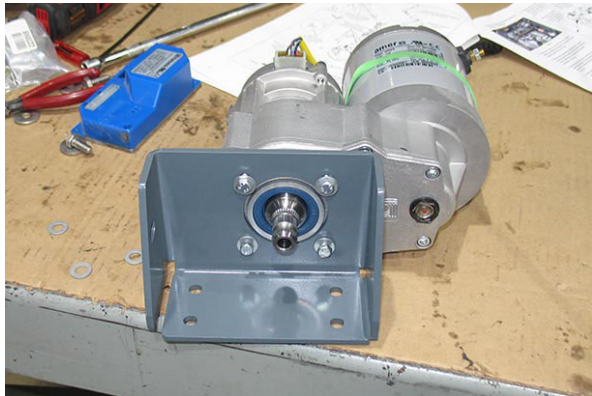
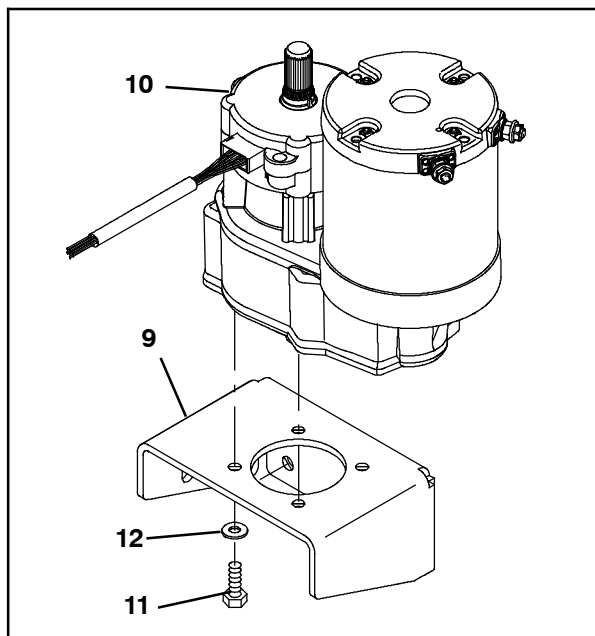

FIG. 29
FIG. 30
30. Use four M6 hex screws (11) and four flat washers (12) to install the new power steering motor (10) onto the motor support bracket (9). (Fig. 29/Fig. 30)